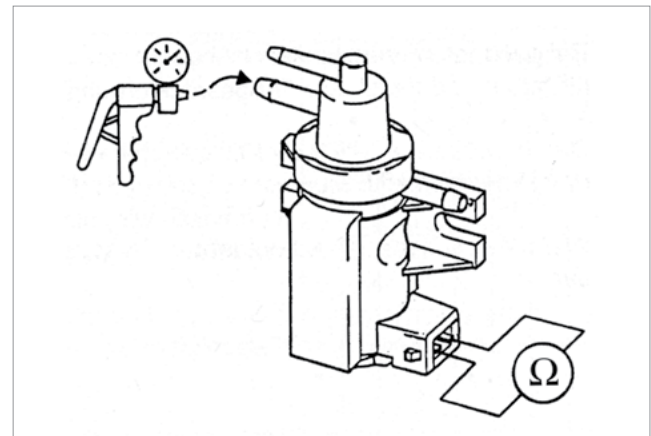

Fig. 6: Electrical resistance measurement on pressure transducer
- Measure the resistance between the contacts of the pressure transducer (see Fig. 6).